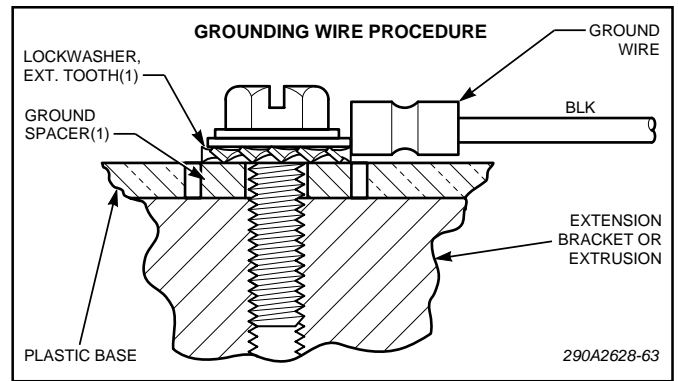

Figure 4.
1. See figure 4. Attach the black wires terminated with a ring terminal on each stationary light assembly to the lightbar's metal channel/extrusion using a #10 x 1/2" hex head thread-forming screw, lockwasher, and ground spacer.